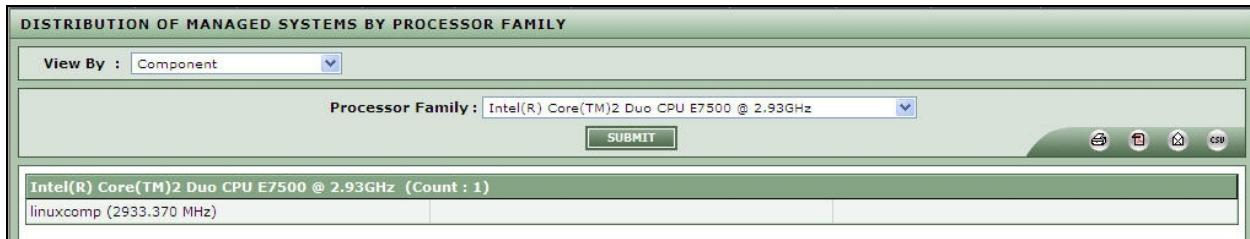

Figure 2.23: Distribution of systems for a specific processor family
1. Select a specific processor from the **Processor Family** list box (see Figure 2.23).